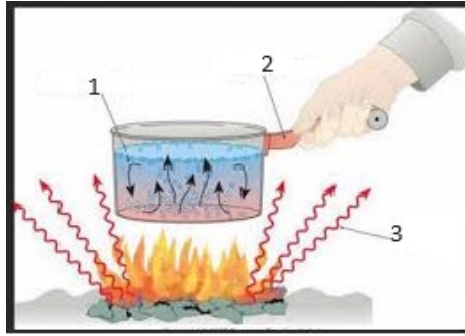

Figure B1(b) / Rajah B1(b)
- CLO1 (b) Heat transfer is the exchange of thermal energy between physical objects. Heat will naturally flow from a hotter to a colder object (2nd Law of Thermodynamics). Thermal equilibrium happens when all involved objects and their environment reach the same temperature. There are essentially three ways that heat can be transferred. Based on the Figure B1(b), explain the three methods of heat transfer.